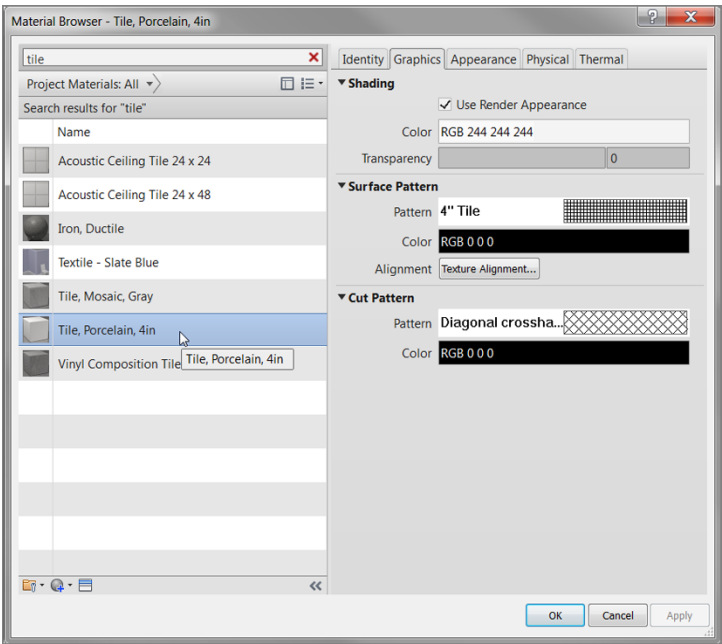

FIGURE 9.71: Grabbing some sweet tile
2. In the Material Browser, type **tile** in the search field at the top of the dialog, as shown in Figure 9.71, scroll down, and select **Tile, Porcelain, 4in (100mm)**.